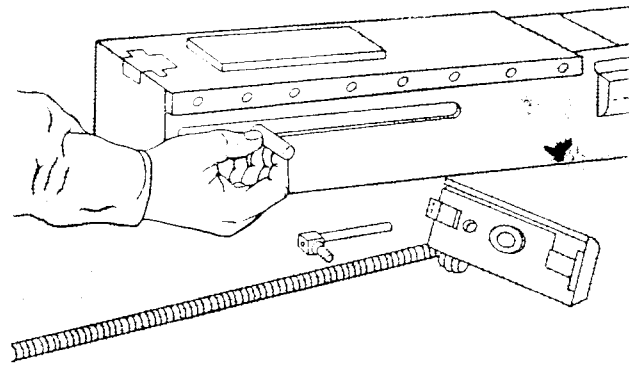

Figure 2-39. Inserting Bolt Stud of Gun Charger Into Gun Bolt of Machine Gun
- c. Remove bolt stud from end of charger and insert in gun bolt. (See figure 2-39.)